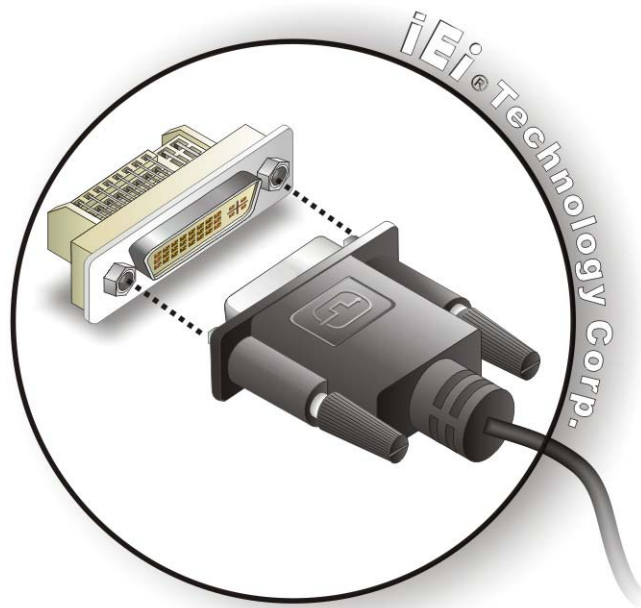

Figure 4-13: DVI Connector
Step 3: Insert the DVI-D connector Once the connectors are properly aligned with the male connector, insert the male connector from the digital display device into the female connector on the IMB-Q770. See Figure 4-13.